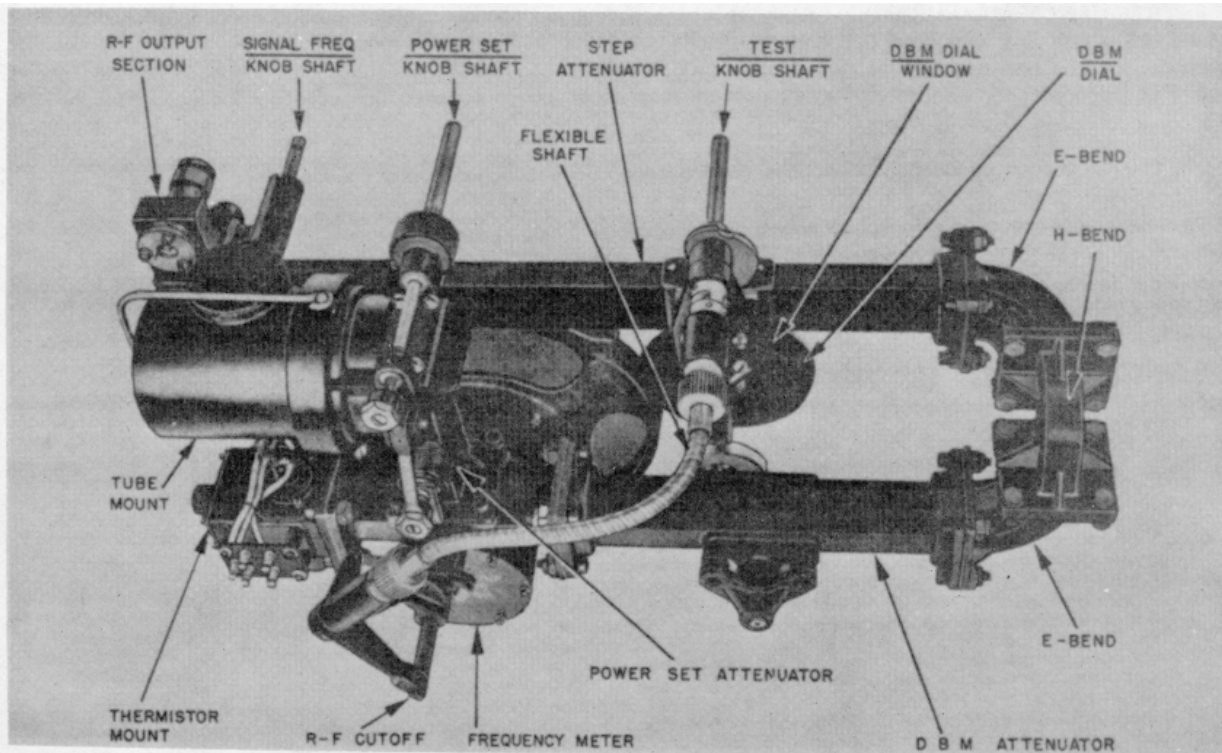

Figure 2-2. RF Plumbing Arrangement
(1) Figure 2-2 shows the physical layout of the RF plumbing components of the test set. They are principally wave guide sections fitted with an RF output and detector section, a step attenuator, a calibrated variable attenuator, a frequency meter, a thermistor bridge assembly, and a tube mount. Most of the components are assemblies that have been calibrated and cannot be taken apart in the field and still be expected to give accurate measurements. Each component can, however, be replaced as a complete unit and this may be done easily and successfully in the field by trained personnel.